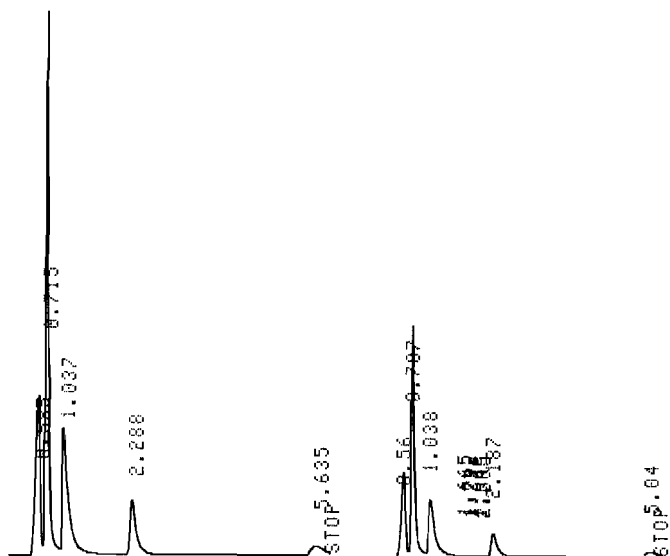

Figure 67-1. Improving the peak shape at the start of a chromatogram using an air cushion (right panel). Comments see text.
- Inject 10 to 20 μL of air together with your sample (take up the air first, then the sample) in order to create an air cushion that prevents the dilution of the sample zone travelling from the injector to the column. See Figure 67-1. Incidentally, there are injectors that produce such air segments automatically.